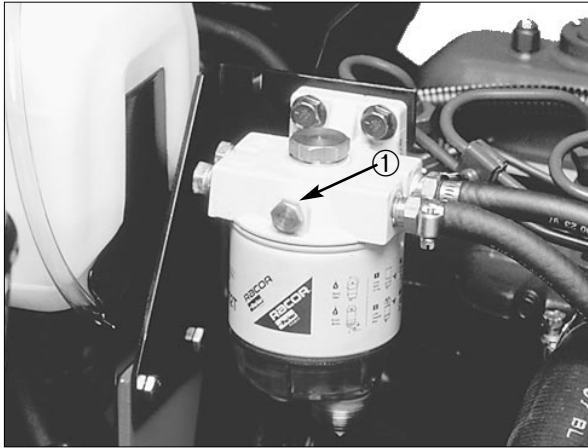

Figure 15
2. Loosen the air bleed screw on top of the fuel filter/water separator (Fig. 15)